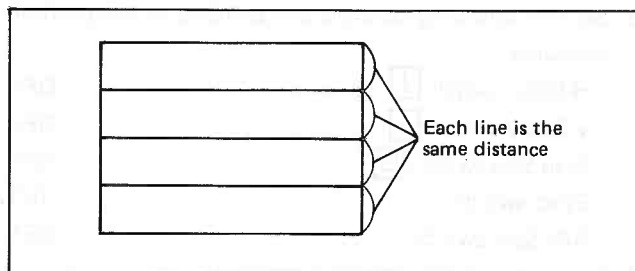

Fig. 48
- Adjust the R453 (Vertical Lineality Control) to each line is the same distance as shown in Fig. 48.